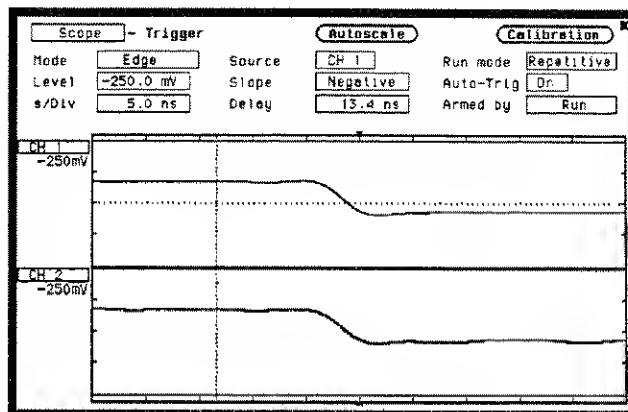

Figure 25-6. Negative Edge Of Waveform
4. Touch the TRIG key and toggle the Slope field in the Trigger Specification menu to Negative. Notice the negative-going edge of the waveform is now displayed as shown in figure 25-6.